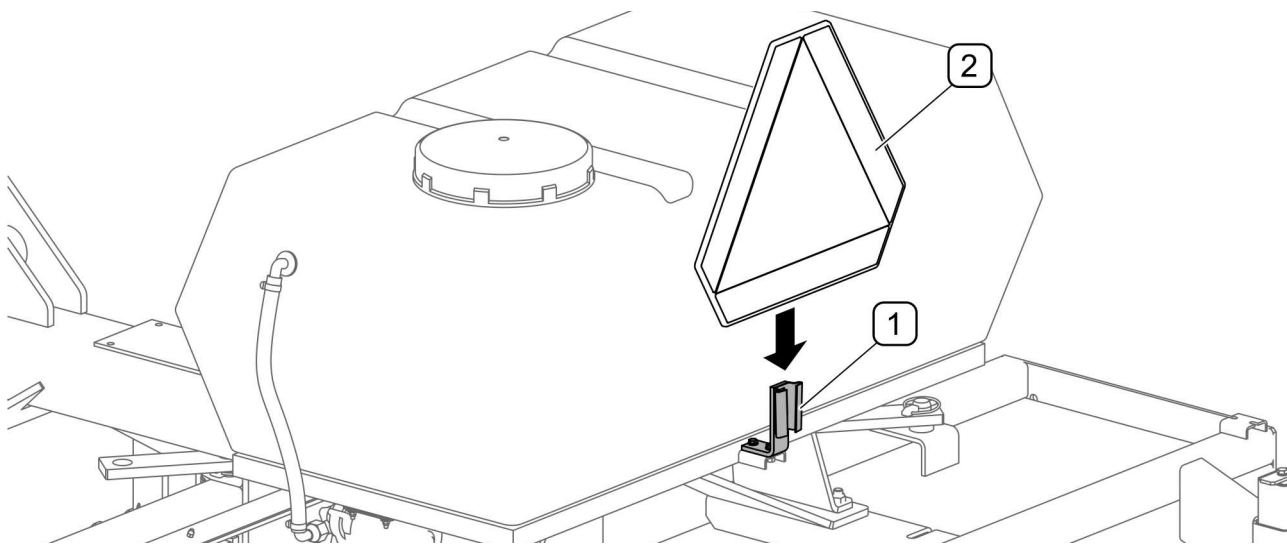

FIG. 4.11 Additional bracket for the warning sign (optional)
- If the sweeper obscures the slow-moving vehicle warning sign attached to the back of the tractor, the warning sign must be mounted on a dedicated bracket (FIG. 4.11) on the sweeper frame (available as an option).